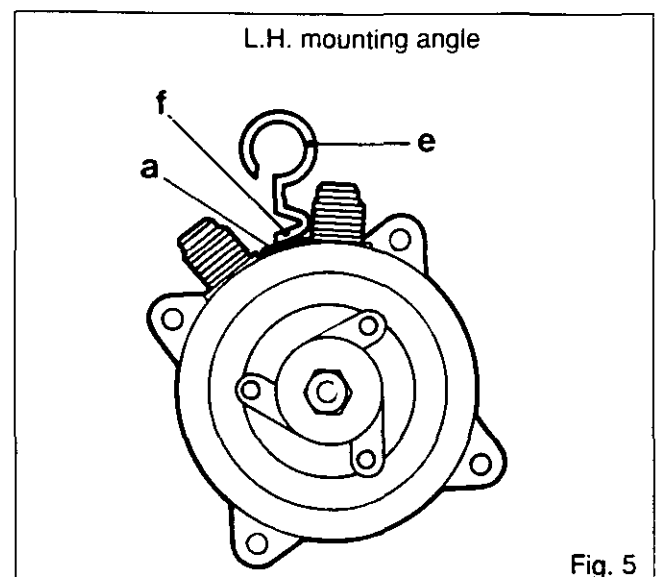

Fig. 5
- 5 - Insert the dipstick up to the stop (Fig. 5). The stop is formed by the bend at the top of the dipstick :